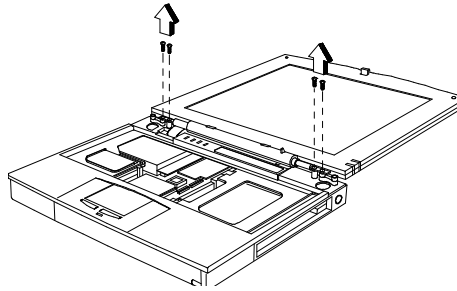

Figure 6-14 Removing the Display Hinge Screws
4. Refer to Figure 6-14 and unplug the two internal drive cables, J18 and J20.
3. Remove the four display hinge screws (Figure 6-14) and separate the Display Assembly from the Base Assembly.